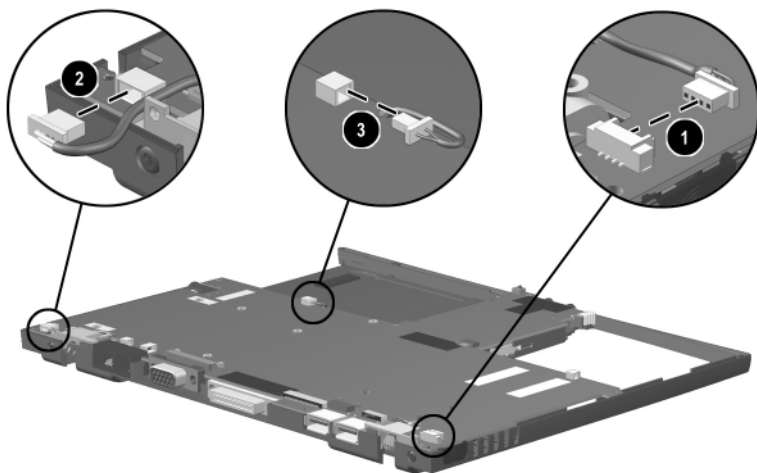

Figure 5-16. Disconnecting the Battery Terminal and Speaker Cables
2. Disconnect the left ❶ and right ❷ external battery terminal cables and the speaker cable ❸ (Figure 5-16).